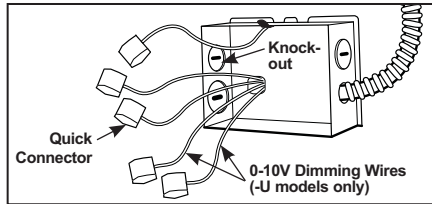

Figure 6
Step 2. Remove wiring box cover. Remove the appropriate knock-out(s) to accommodate the type of electrical service to be used/allowed by your local electrical code (Fig. 6):
Step 3. Strip supply wire 3/8" and insert each supply wire into appropriate connector. Connect black fixture wire to hot, white fixture wire to neutral and green fixture wire to ground. (Fig. 6).